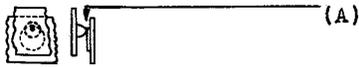

Fig. 2 — Alignment of Point and Disc Contacts
2.04 Contact Alignment: Fig. 2(A) — The point of contact shall fall wholly within the boundary of the opposing contact.